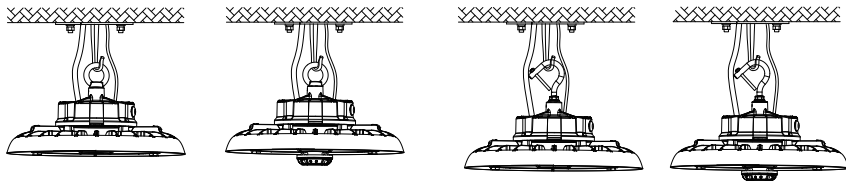

Figure2
2. Hang the fixture on the ceiling hook or chain(Figure2)